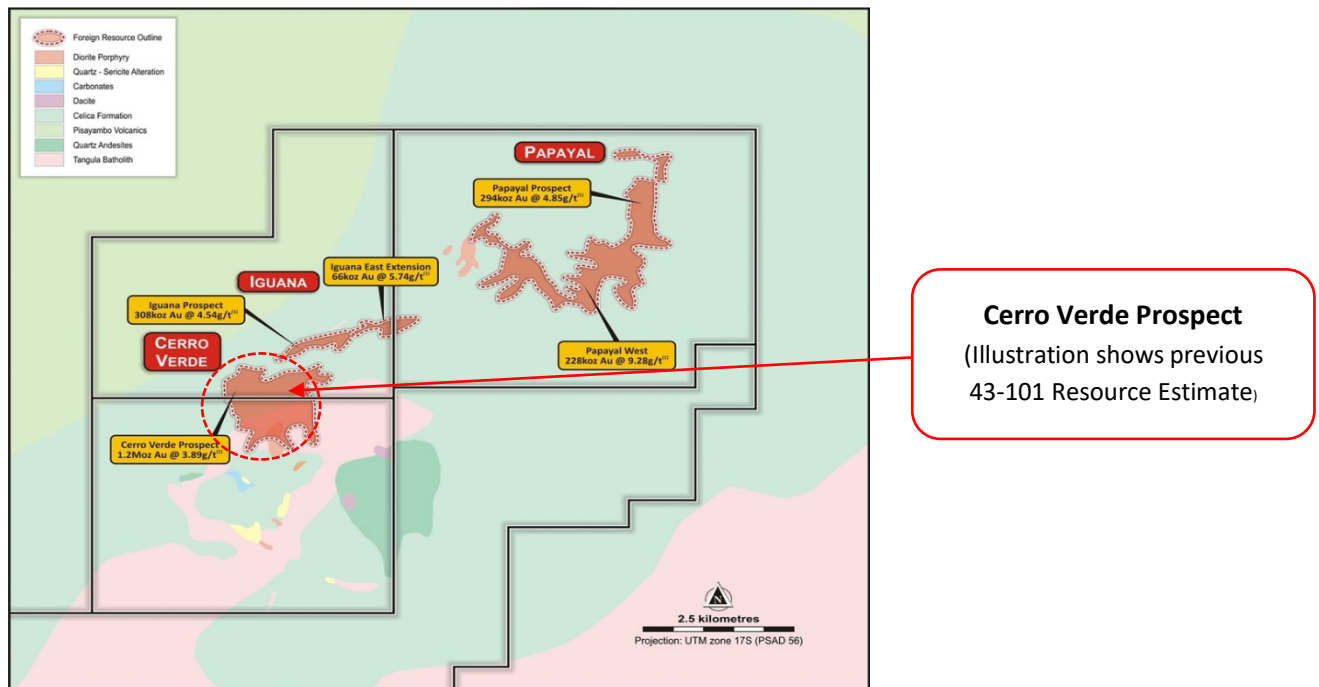

Figure 1: Location of Cerro Verde Prospect within overall Dynasty Project
The Dynasty Gold Project is an advanced stage exploration project comprising five (5) contiguous titles and 139km2 in area. Three of these concessions received Environmental Authorisation in 2016 and are fully permitted for exploration and small-scale mining. Exploration works at the Dynasty Gold Project have outlined an extensive zone of epithermal veining over a nine (9) kilometres strike and over one (1) kilometre in width. Previous explorers had estimated a Canadian NI 43-101 resource estimate (referred to as a Foreign Resource) of 14.4 Million tonnes at 4.5g/t gold and 36g/t silver. This resource estimate was compiled using a dataset of 1,160 trenches and 26,733 metres of diamond core. It was estimated by polygonal methods which is not yet considered JORC 2012 compliant. The foreign resource estimation This historic resource estimate was compiled using a dataset of 1,160 trenches and 26,733 metres of diamond core and essentially breaks the Project's 9km of strike into three main prospects: Papayal; Iguana; and Cerro Verde (refer to Figure 1). The information in this announcement relating to Mineral Resource Estimates for the Dynasty Gold Project is a foreign estimate and is not reported in accordance with the JORC Code. A competent person has not done sufficient work to classify this foreign estimate as a mineral resource in accordance with the JORC Code and it is uncertain that following further exploration work that this foreign estimate will be able to be reported as a mineral resource in accordance with the JORC Code (refer to ASX announcement dated 30 April 2020 and Notes to Foreign Mineral Resource Estimate below).